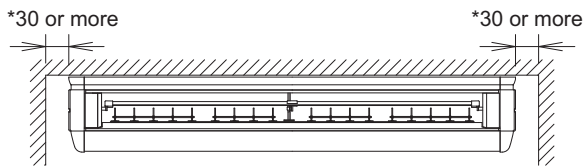
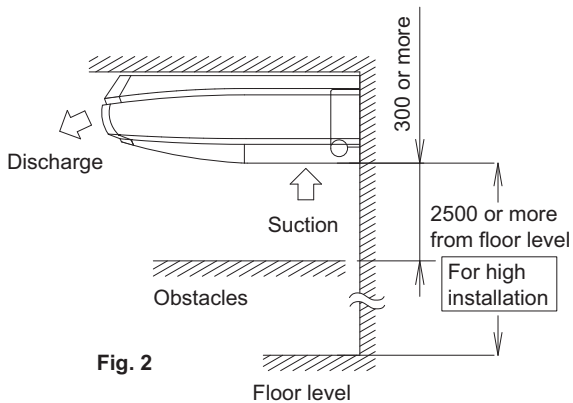

Fig. 1
Fig. 2
- Where a space sufficient for installation and service can be ensured. (Refer to Fig. 1 and Fig. 2)